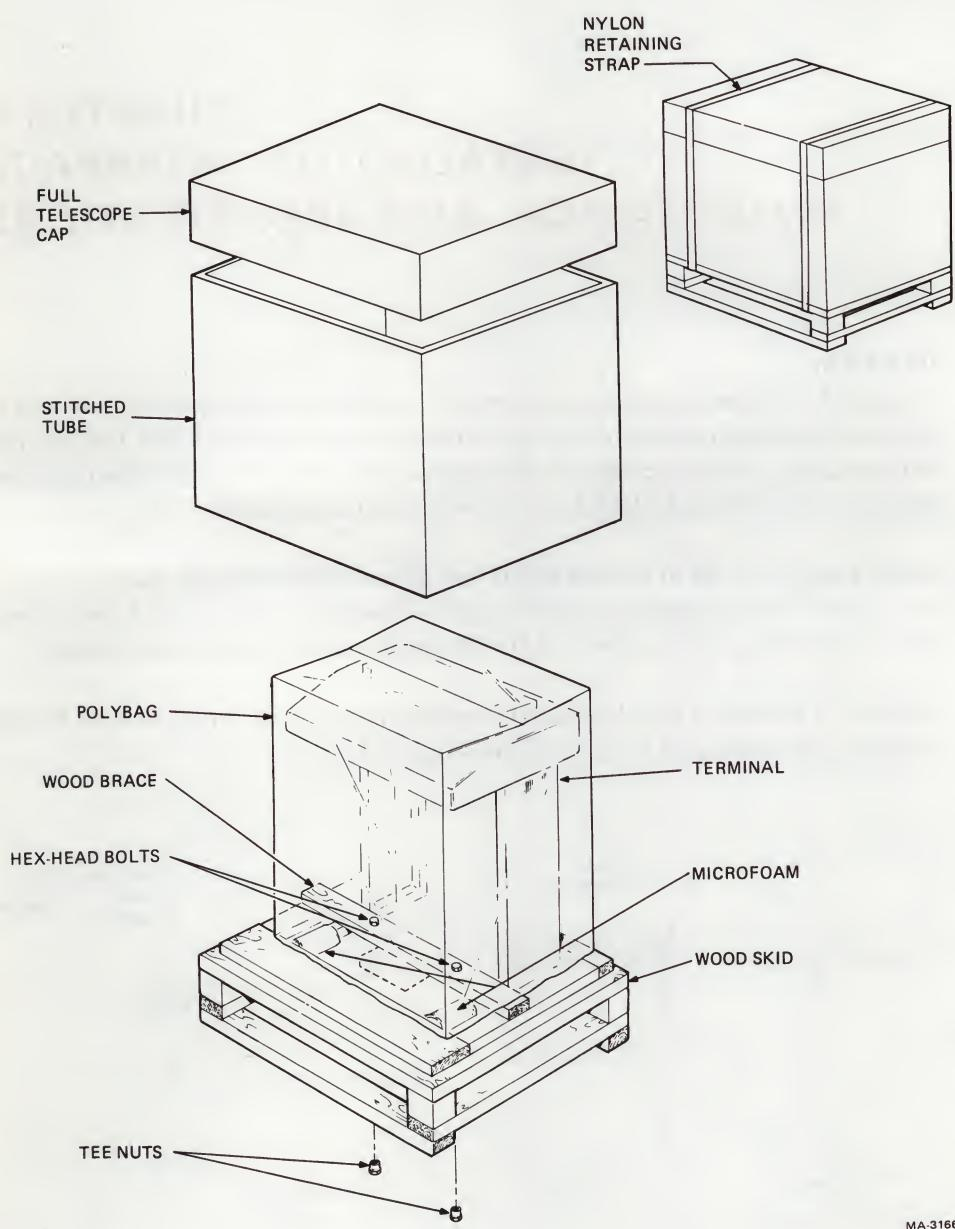

Figure 4-2 Unpacking/Packing
Perform the following procedure to unpack and inspect the LA120-RA (Figure 4-2).
3. Pack the LA120-RA as shown in Figure 4-2.